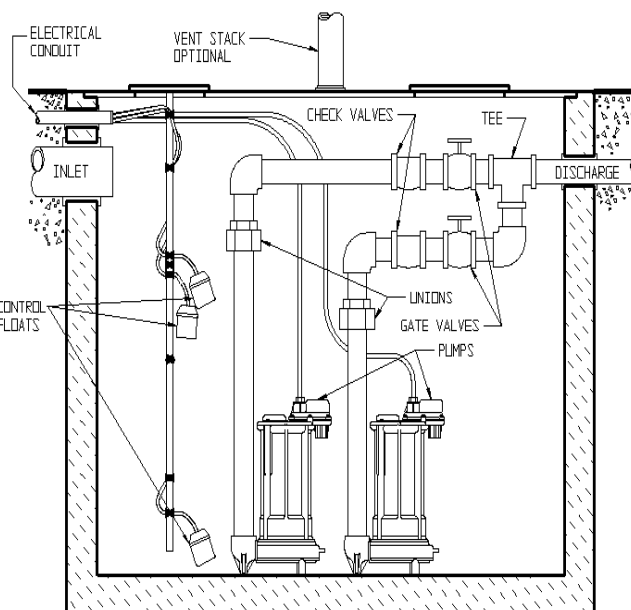

Fig. 3 – Typical Installation Duplex System
- B. **Duplex (Two Pump) Systems (see Fig. 3):** Set both pumps in place in the bottom of the basin. The duplex control used will include 3 or 4 floats that will either be tethered to one of the discharge pipes or to an independent rod or bracket. Follow the